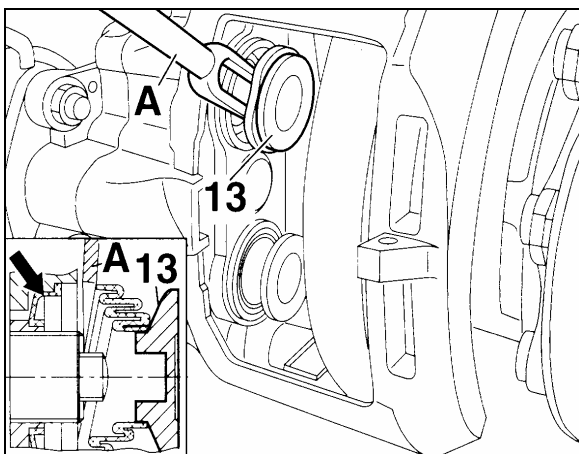

FIGURE 32: RUBBER BOOTS
- a) The rubber boots (13, Fig. 32) should show no damage, check the attachment.